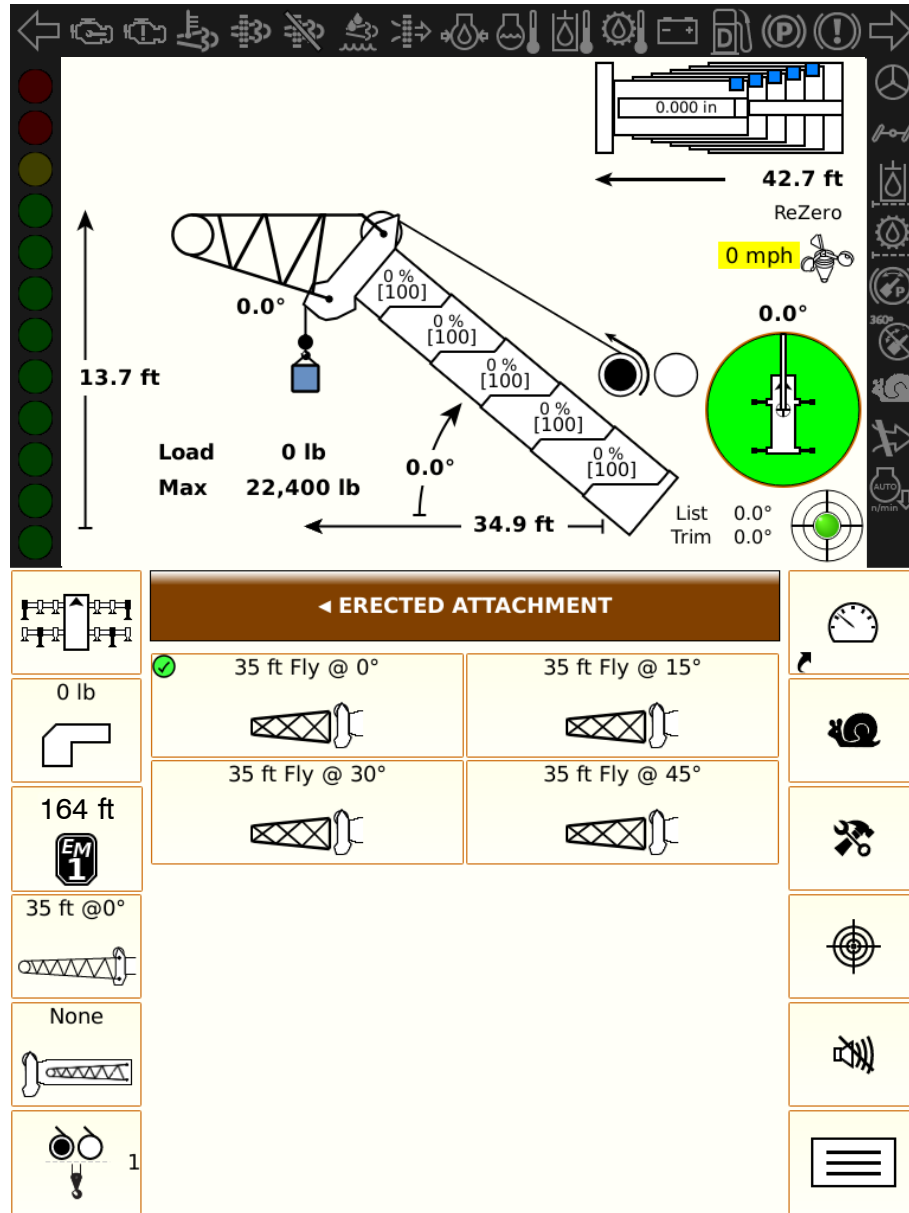

Figure 1–106
- b. If an Erected Attachment is selected, a secondary Erected Attachment will appear. Press the button for the actual offset fly configuration. The activation icon  will appear on the selected button for the desired erected attachment configuration. Refer to Figure 1–106.
Note: If a fixed offset fly angle is selected, the fly angle will appear on the Erected Attachment Configuration Button. Refer to Figure 1–106.